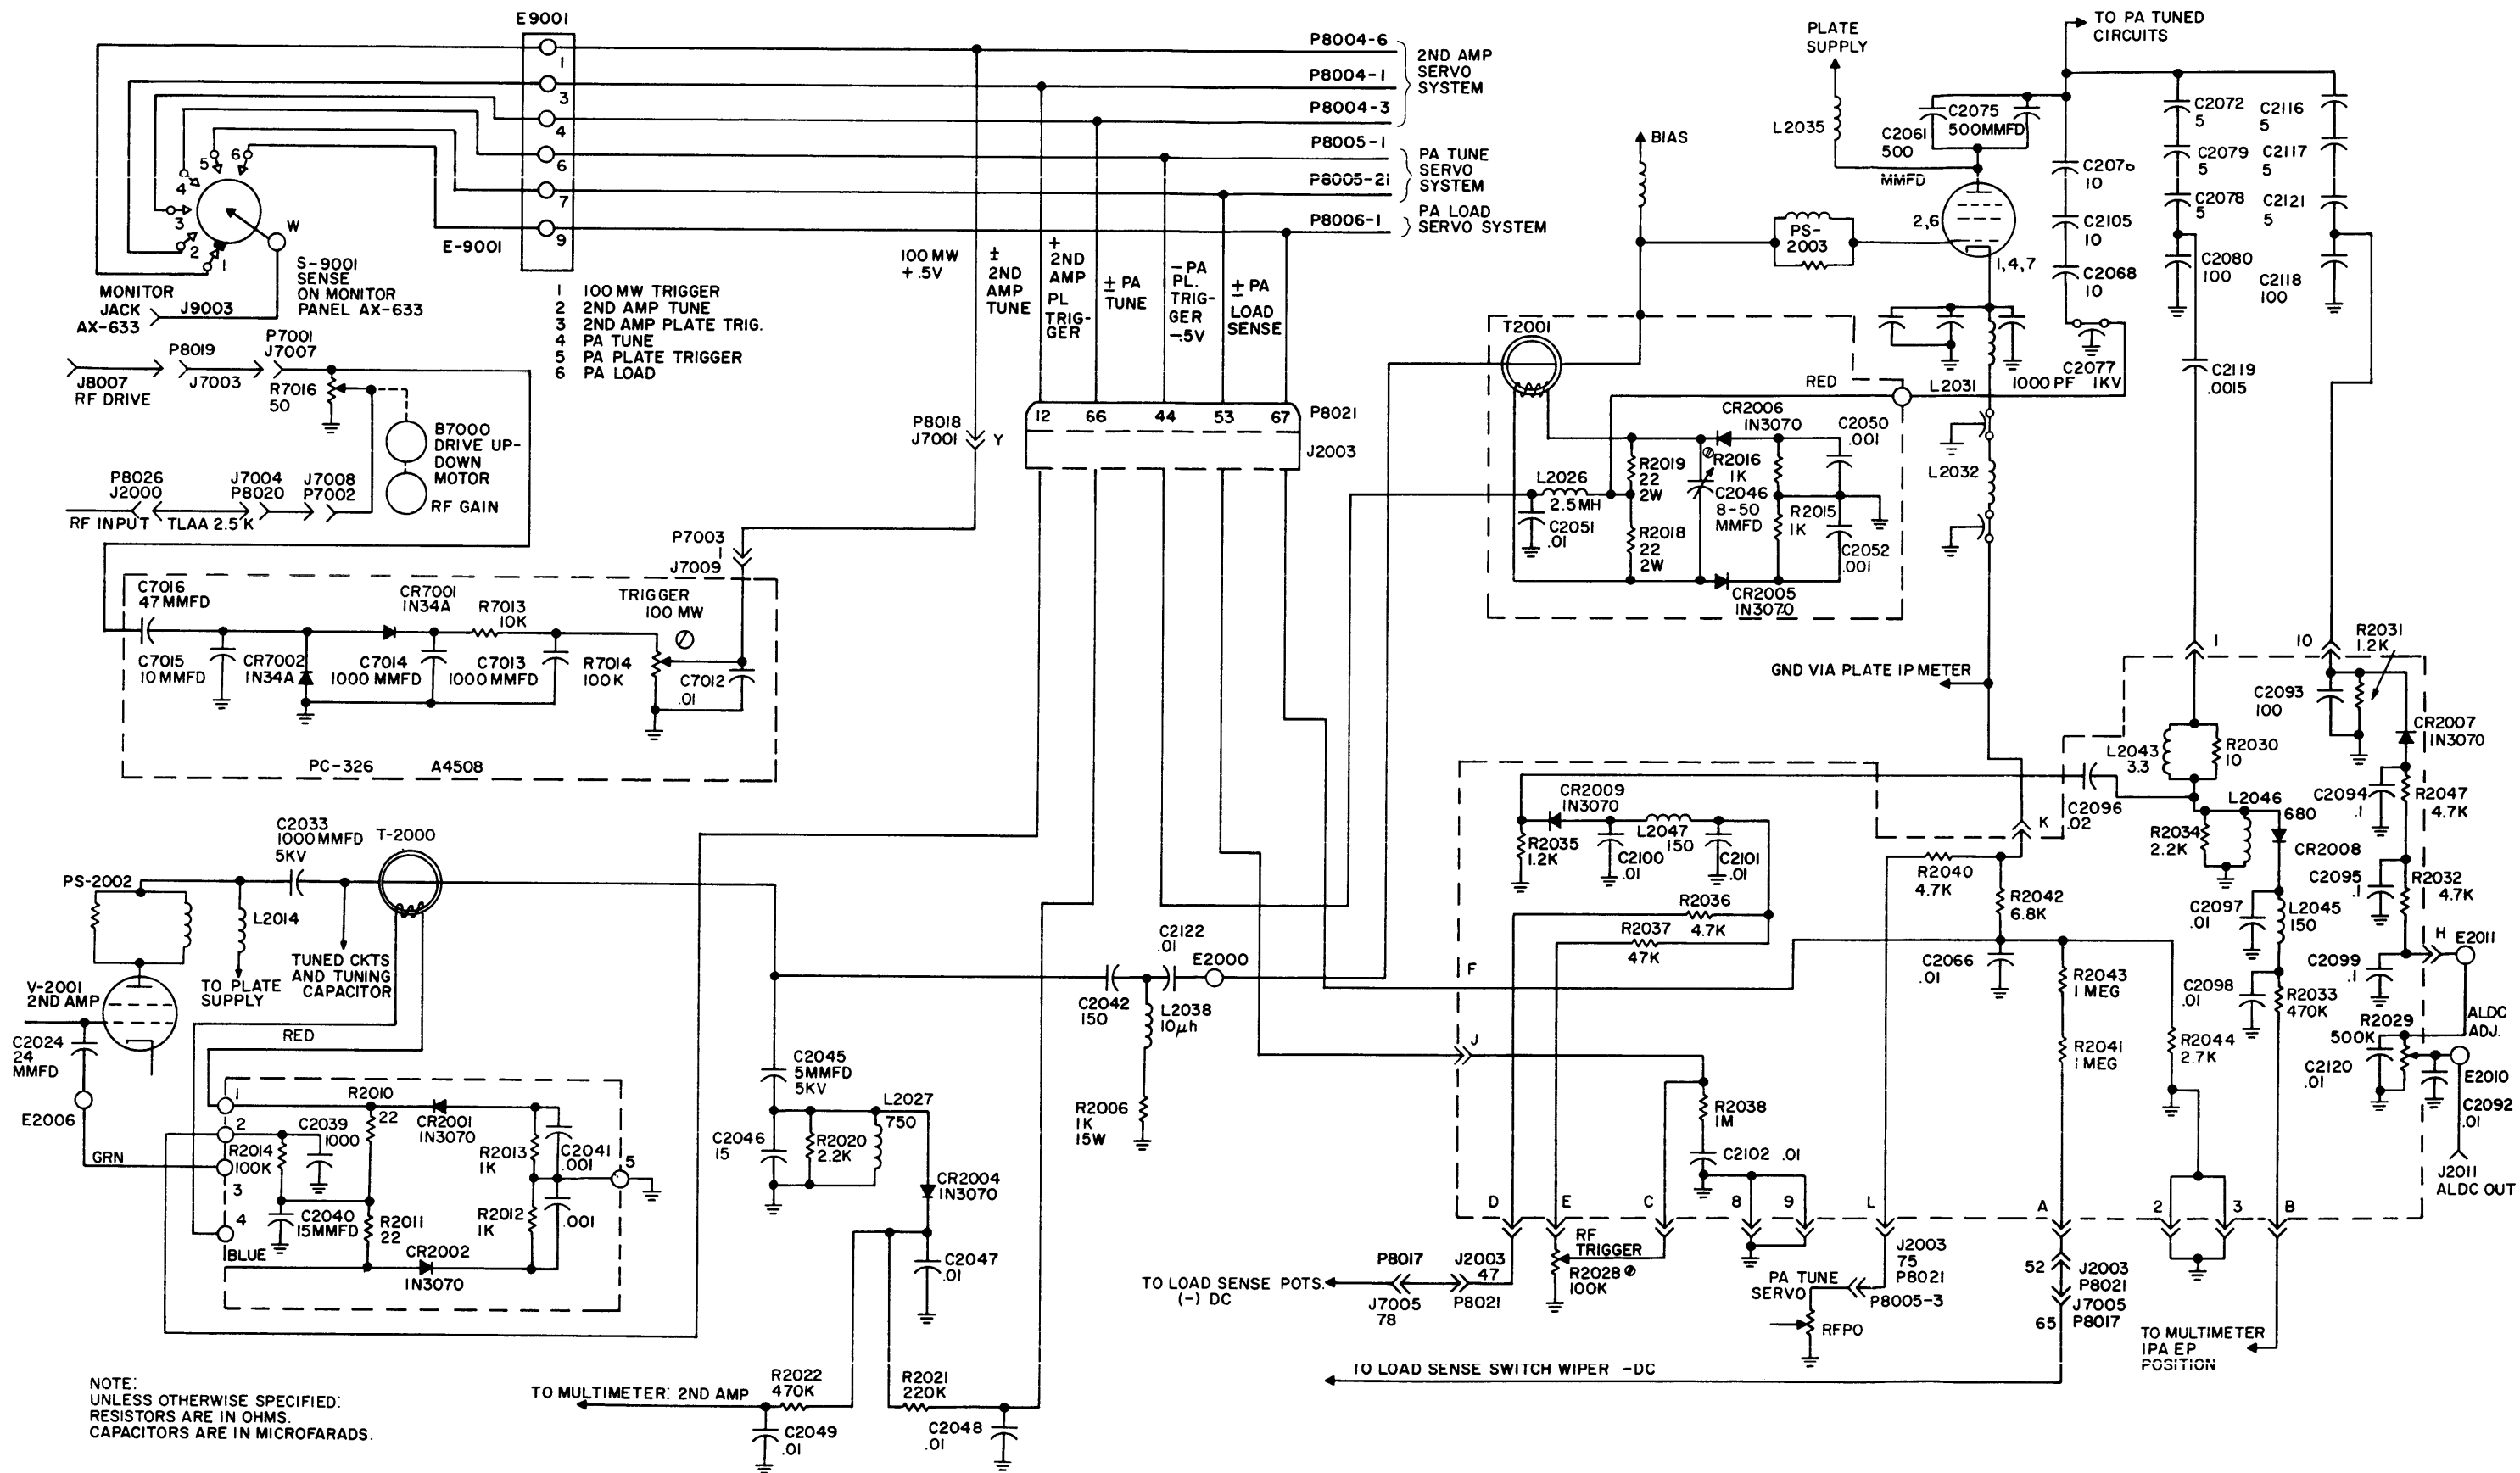

Figure 4-13. Simplified Schematic of Sense Circuits
4-14. AUTOMATIC TUNING AND LOADING (refer to figures 4-13 and 4-14)
(1) **DRIVE-UP** (refer to figures 4-13, 4-15, and 4-16) - Initially, motor B7000 is deenergized and the rf gain potentiometer is at zero. Switches S7002A and S7002B, linked to the motor, are in the normally open position. Switch S7003 is also linked to the motor but it remains in the normally closed position unless the motor is driven too far. The exciter rf input enters the SWCA at J7003 and is routed through diode CR7001, where it is rectified and applied across level adjust resistor R7014. The signal is adjusted to a 100 mw level before it is passed through pin Y of J7001. The signal is then routed to the alarm panel for monitoring, and to the second amplifier servo.